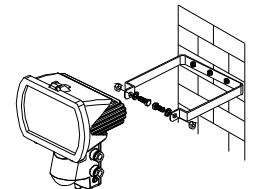

FIGURE 9
5) Re-attach the floodlight to the bracket and secure the supply cable (and additional lighting load supply cable if applicable) to the wall using suitable clips. Ensure that the cable is not touching the body of the floodlight, and that there is sufficient slack in the cable to allow the floodlight to be tilted and adjusted as required (FIGURE 9). NB: Tilt and adjust the floodlight by grasping the metal body of the floodlight, not the wiring box.